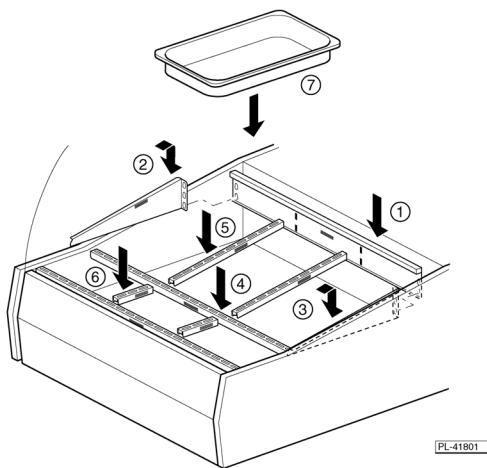

Fig. 7
1. Adjust the back wall support to the 0, 5 or 10 degree position (FigS. 7 and 8).
2. Adjust the side wall support to the same 0, 5 or 10 degree position on LEFT side of the unit (Figs. 7 and 8).
3. Adjust the side wall support to the same 0, 5 or 10 degree position on RIGHT side of the unit (Figs. 7 and 8).
4. Install the long divider bar as shown (Fig. 7).
5. Install the medium divider bars as shown (Fig. 7).
6. Install the short divider bars as shown (Fig. 7).
7. Install the pans between the divider bars as shown (Fig. 7).